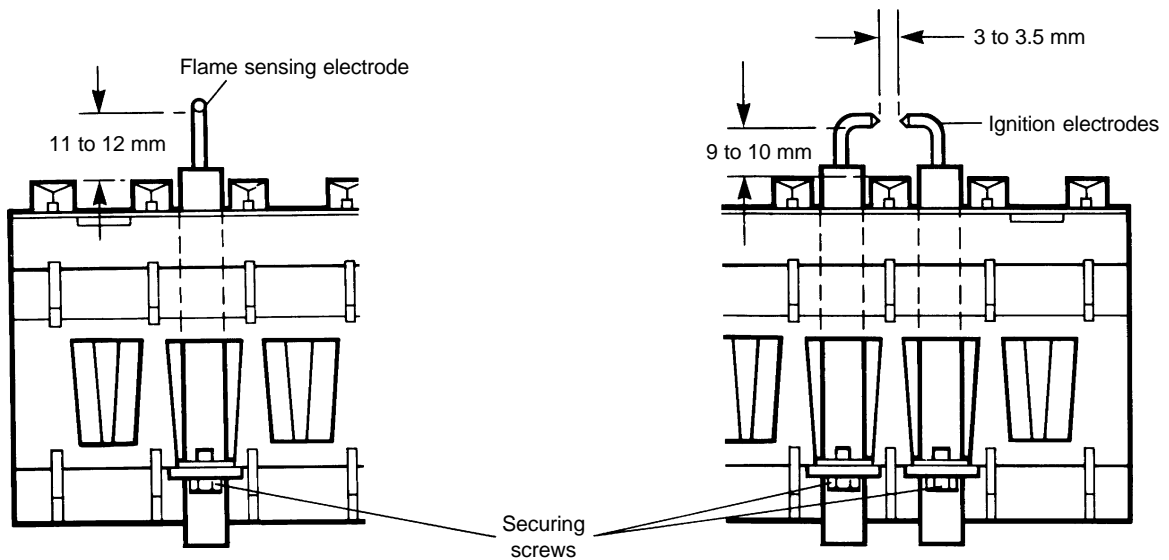

Fig. 20
8.6 ELECTRODES (Alpha 240XE only) - Fig. 20
Fit the new electrode, ensuring it is positioned correctly (see Fig. 20).
Fit the new electrodes, ensuring they are positioned correctly and the spark gap is correct (see Fig. 20).